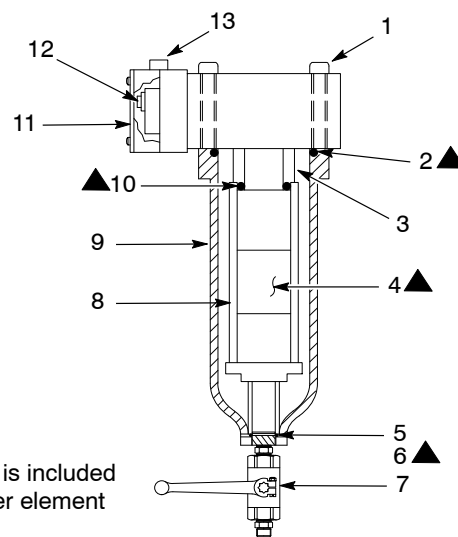

Figure 2 Filter Components
1. See Figure 2. Close the material supply ball valves on either side of the filter, coming from the unloaders to the filter stand.
2. Disconnect the cable from the electrical connector (13).
3. Place a five-gallon bucket under the filter bleed valve (7). Open the filter bleed valve to relieve material pressure. Close the filter bleed valve when material no longer bleeds out under pressure.
4. Remove the fitting (5) from the filter bowl. Remove the O-ring (6) from the fitting. Discard the O-ring.
5. Support the filter bowl (9). Using a 1/2-in. hex wrench, remove the four cap screws (1). Remove the filter bowl and filter bowl O-ring (2).
6. Remove the filter element (4) and filter O-ring (10).
7. Clean the filter bowl and filter head (8).
1. See Figure 2. Install a new filter O-ring (10) and filter element (4) on the bottom of the filter head (8).
2. Support the filter bowl (9) and filter bowl O-ring (2) in place at the bottom of the filter head and install the four socket head cap screws (1). Tighten the screws to 325 N•m (240 ft-lb).
3. Install a new O-ring (6) onto the fitting (5). Install the fitting (5) into the filter bowl (9) and tighten securely.
4. Remove the restriction indicator cover (11). Turn the dial (12) clockwise to the CLEAN position. Reinstall the cover.
6. Connect the cable to the electrical connector (13).
See Figure 2.